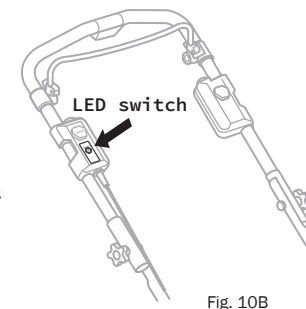

Fig. 10B
- To turn on the lights, press the LED switch on the switch box (Fig.10B).